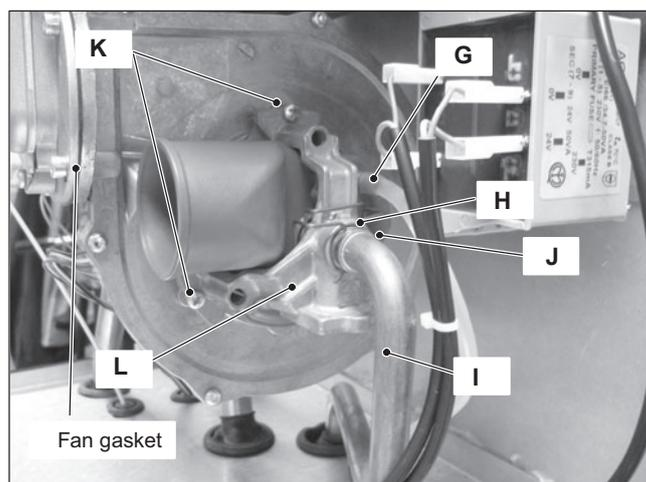

Figure 17.3
- 4 Disconnect the rubber pipe G (Figure 17.3).
- 6 Remove the fixing fork H and remove the gas pipe I (Figure 17.3).
**Before reassembling ensure the fan gasket (Figure 17.3) is correctly mounted.**